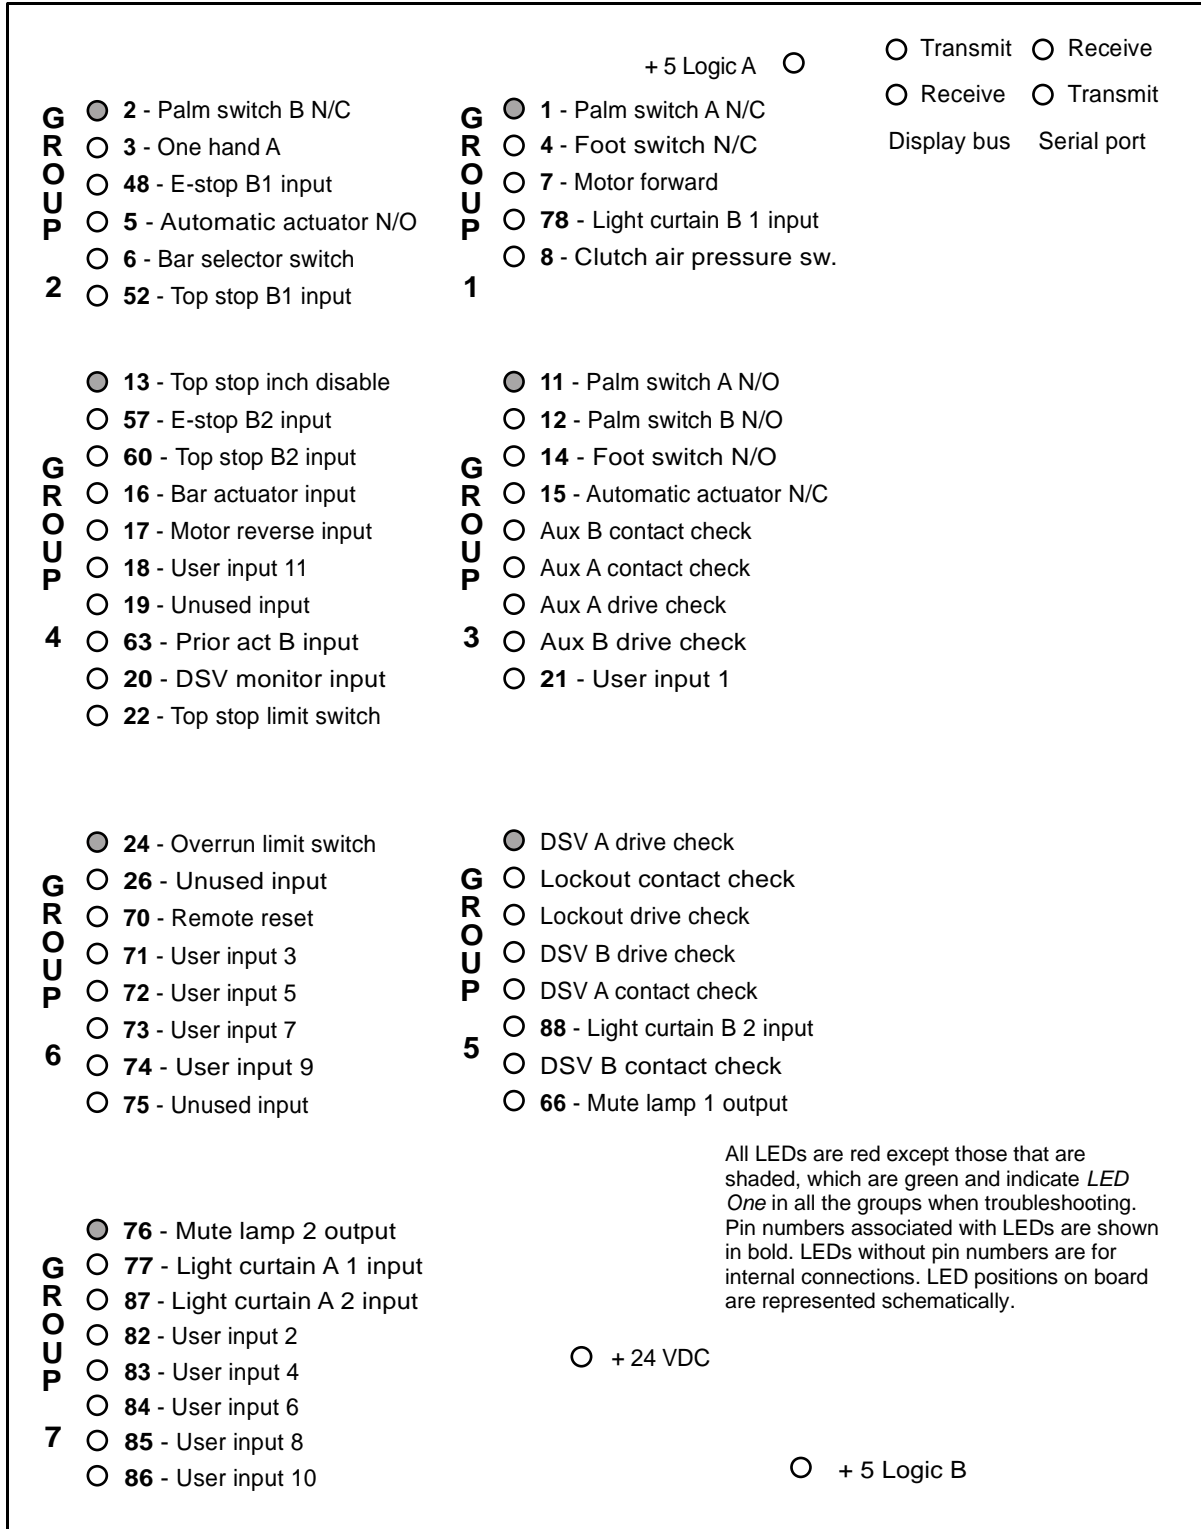

Figure 2-17. LED Map, WPC 2000 Main Processor Board
- See Figure 2-17, below, for an LED map of the WPC Main Processor board, showing the locations of all LEDs.